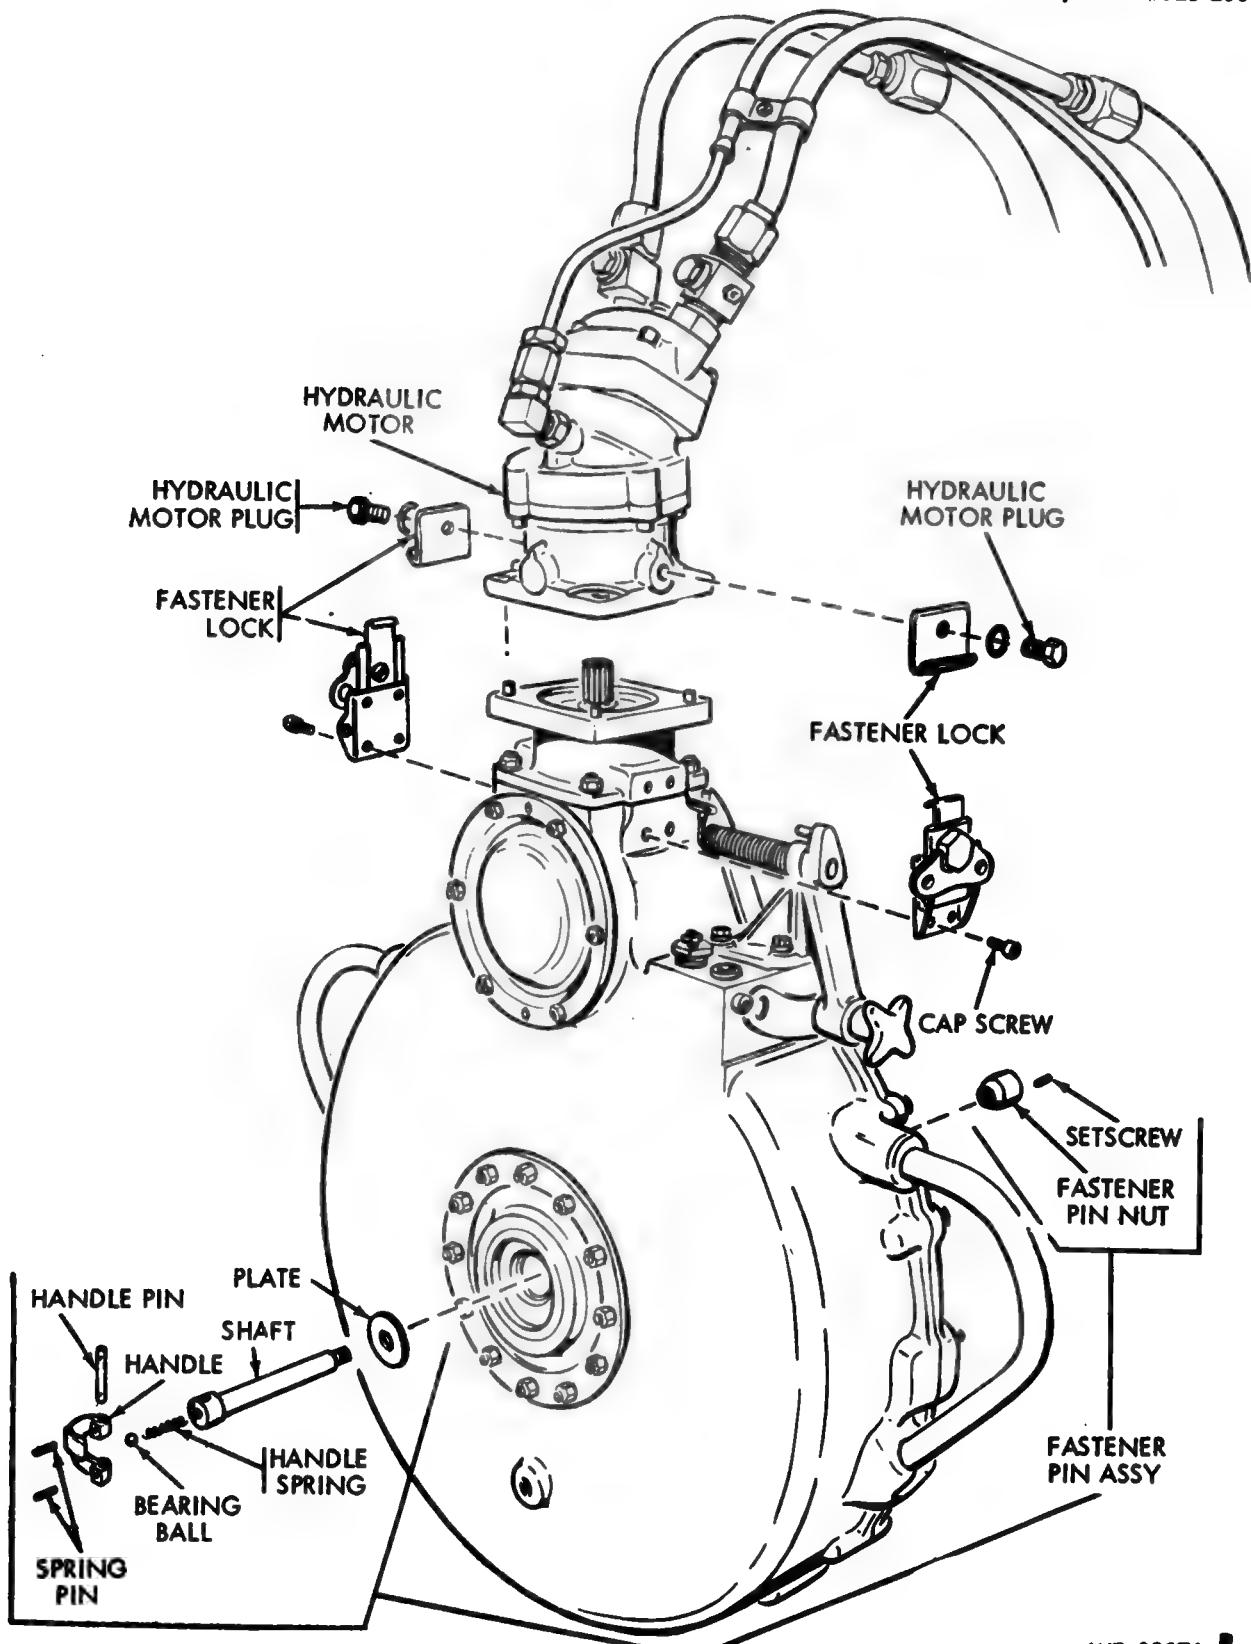
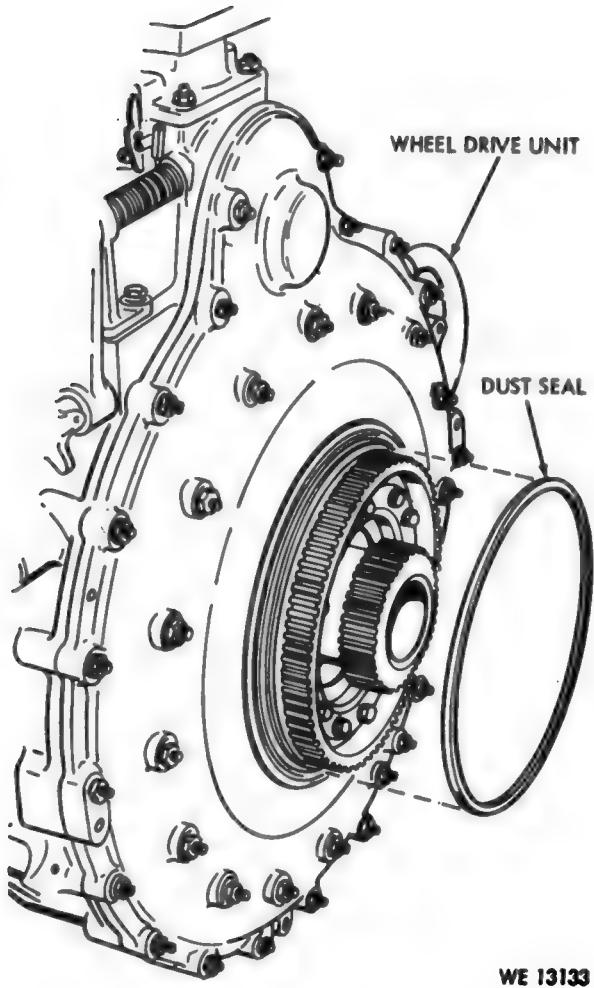

Figure 138. Removal or installation of fastener lock and lockpin.
Figure 139. Removal or installation of dust seal.
b. Fastener Locks (fig. 138).
- (1) Remove the four capscrews securing each fastener lock and remove the locks.
- (2) Remove the plugs and remove the tops of the fastener locks and performed packing.
c. Remove Dust Seal (fig. 139). Pry dust seal out of groove.
a. Dust Seal. Install the dust seal in the groove provided (fig. 139).
- (1) Install the tops of the fastener locks on the hydraulic motor and secure with plugs and performed packings.
- (2) Install each fastener lock on the wheel drive unit and secure with four 10 x 3/8 socket head capscrews.
c. Drive Unit Fastener Pin Assembly (fig. 138).
- (1) Position the fastener pin handle on the fastener pin shaft, insert the fastener pin handle spring and bearing ball in the shaft, hold the ball and spring back and insert the fastener pin handle pin through the handle and shaft, with the slot in pin against the ball. Aline the pin holes and insert two 3/32 x 9/16 spring pins.
- (2) Slide the fastener pin plate on the shaft.
- (3) Insert the fastener pin assembly through the center of the wheel drive unit and screw the fastener pin nut on the shaft. Aline the setscrew hole and install the No. 10 x 3/8 hexagon setscrew.